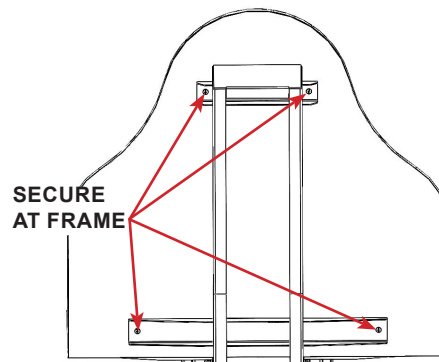

FIGURE 2.10 - Secure Top Panel
STEP 2: Secure the top panel to the frame using a 1/4"-20x1/2" long phillip head screw and 1/4" flat washer. (4 locations) See FIGURE 2.10